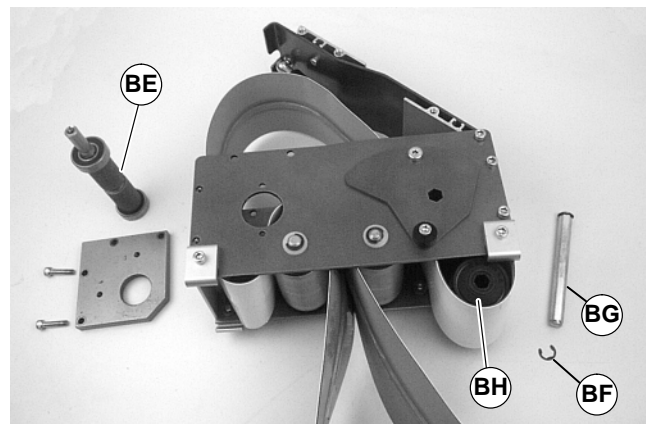

Figure 28
2. Remove drive pulley (BE of Figure 28).
- For 44 mm, 70 mm or 95 mm wide conveyor, detach E-ring clip (BF of Figure 28). Remove pulley shaft (BG) and remove pulley (BH).